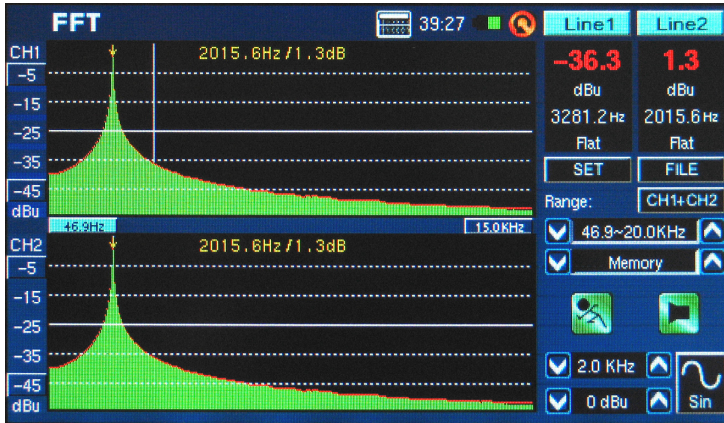

figure 34
7. FFT results are displayed over two pages, meaning you can actually 'scroll' to the left or right to view more results. This is done by the pushing the frequency values in the bottom left- and right-hand corners of the display window. (figure 34 and 35)